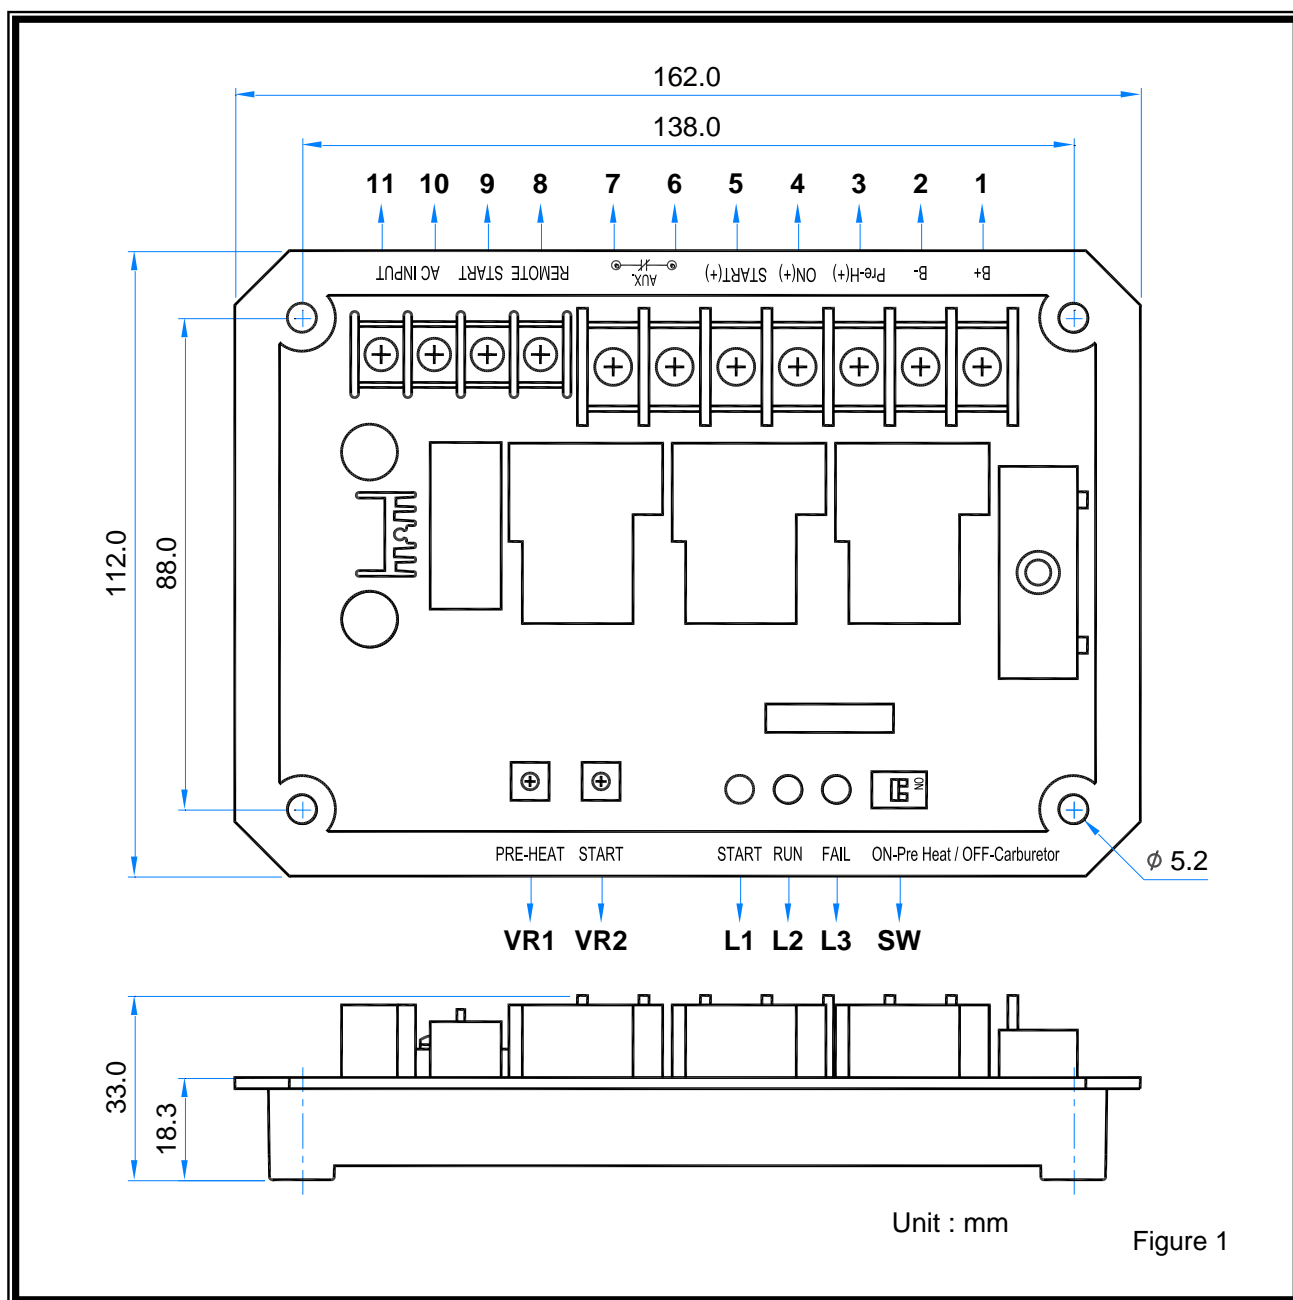

Figure 1
- VR1 : The engine pre-heat time adjustment knob with 1 – 25 seconds range. 5 seconds are recommended. (Please refer to Figure 1 below)
- VR2 : The start-up time adjustment knob with 1 – 25 seconds range. Please refer to the generator user's guide. 4 – 8 seconds are recommended. (Please refer to Figure 1 below)
refer to Figure 1 below)
- L2 : Engine running normal indicator LED. (Please refer to Figure 1 below)
- L3 : Start fail indicator LED. (Please refer to Figure 1 below)